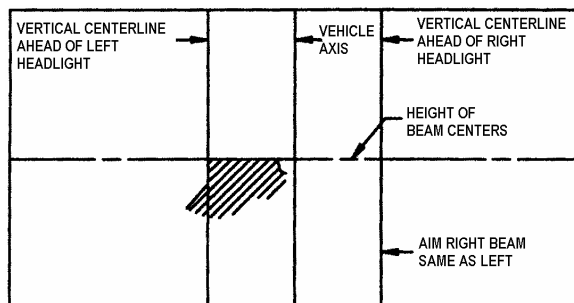

FIGURE 28: HIGH-INTENSITY ZONE (SHADED AREA) OF A PROPERLY AIMED LOWER BEAM ON THE AIMING SCREEN 7.6 M (25FT) IN FRONT OF VEHICLE 06504
7. The inspection limits for high-beam headlights shall be with the center of the high-intensity zone from 10 cm (4 in) up to 10 cm (4 in) down; and, from 10 cm (4 in) left to 10 cm (4 in) right on a screen at 7.6 m (25 ft) (Fig. 28).